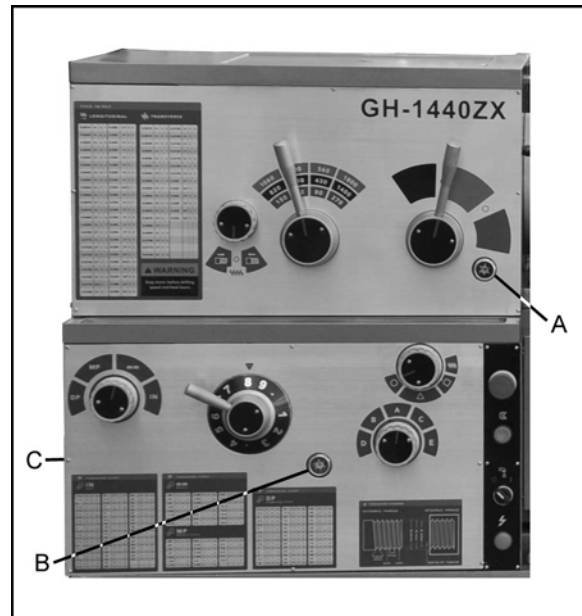

Figure 9
1. **Headstock** – Oil must be up to indicator mark in oil sight glass (A, Figure 9). Top off with SAE 20W. Fill by removing the plug on top of the headstock. To drain, remove drain plug on the left side of the headstock at the lower rear corner. Drain oil completely and clean out all metal shavings. Refill after the first month of operation. Then change the oil in the headstock every two months.
2. **Gearbox** – Oil must be up to indicator mark in oil sight glass (B, Figure 9). Top off with SAE 20W. To add oil to the gearbox, remove two screws on the top cover and remove cover. To drain, remove drain plug (C, Figure 9) on the left side of the gearbox. Drain oil completely and refill after the first three months of operation. Then change oil in the gearbox every six months.